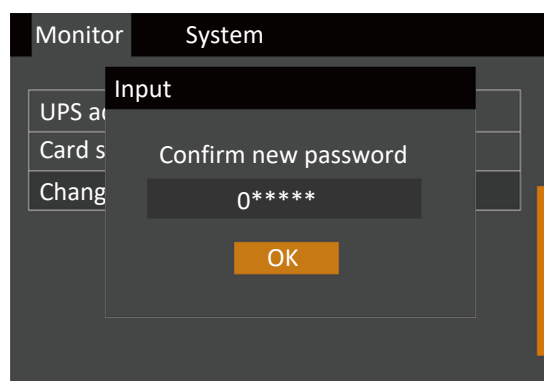

Figure 5-26 Confirming New Password
5. After entering the new password, press the  key to confirm it; at this point the system requests the user to confirm the new password by entering it again, see Figure 5-26.